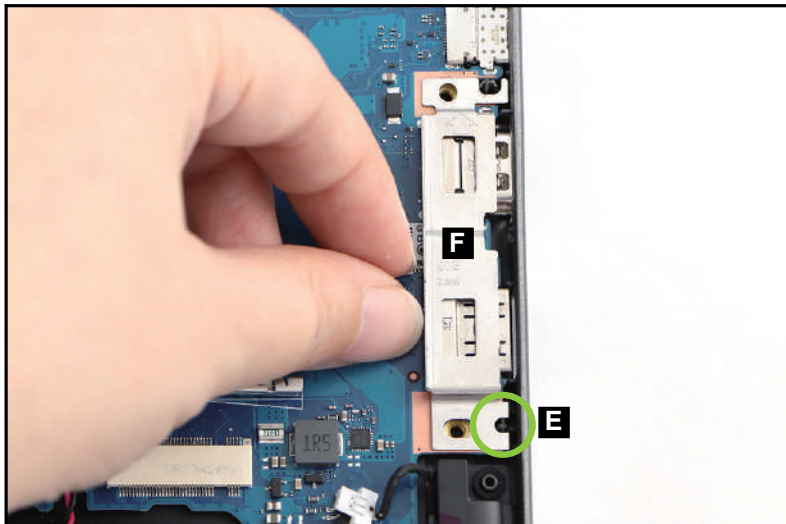

Figure 3-109. Replacing the Mainboard
5. By aligning with the guide pin (E), install the right IO bracket (F) onto its slot on the mainboard as shown in Figure 3-109.